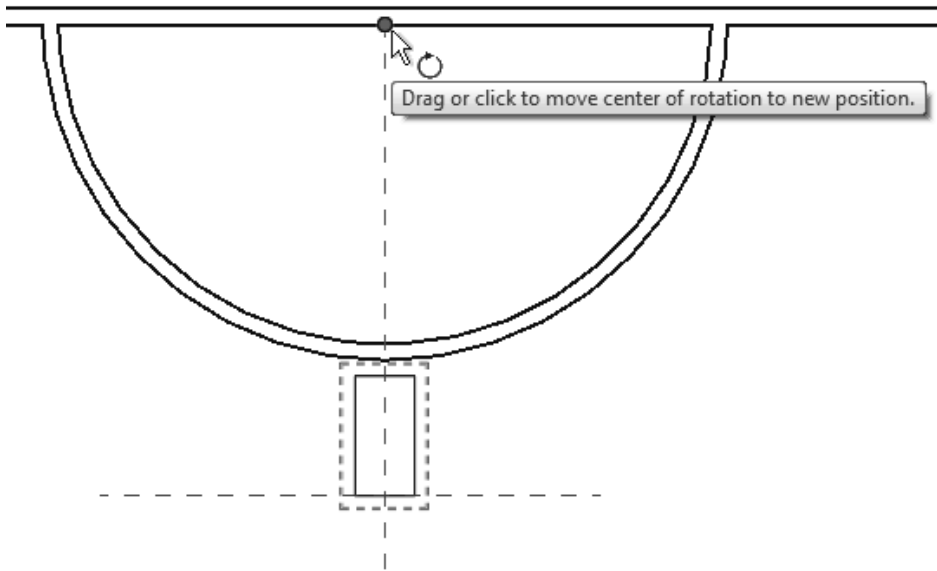

Figure 2-49
4. Drag the center of rotation from the center of the desk to the midpoint of the wall, as shown in Figure 2-49.